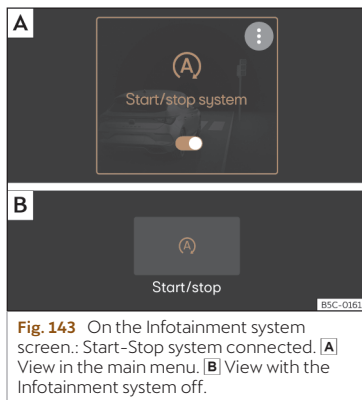

Fig. 143 On the Infotainment system screen.: Start-Stop system connected. **A** View in the main menu. **B** View with the Infotainment system off.
When the symbol (A) appears orange >>> **Fig. 143** the system is activated and will stop and start. When the symbol (A) appears in white the system is disconnected.